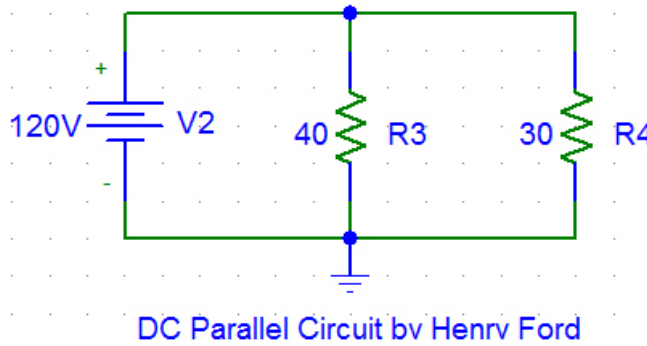

Figure 3.2 – DC Parallel Circuit
12. To the right of the **DC Series Circuit** in the *Schematics* window, create the **DC Parallel Circuit** shown in Figure 3.2.
Note that the thickness of the lines representing the parts and wires in Figure 3.2 has been increased. To change the line thickness in your circuits, Click **Options** from the *Schematics* menu bar and then choose **Display Preferences...** to open the *Display Preferences* dialog box.